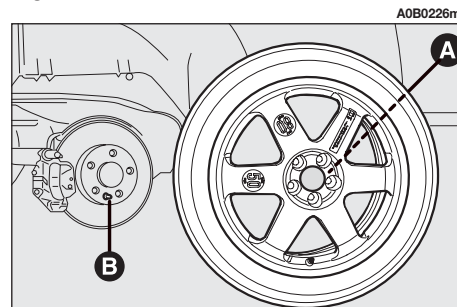

fig. 7
- Install the spare wheel by matching one of the holes (**A-fig. 7**) with the corresponding pin (**B-fig. 7**).
— Fit a normal wheel bearing in mind that the pin (**B-fig.7**) must match one of the holes (**A-fig.7**).
— Tighten the bolts following the order previously described for the compact spare wheel **fig. 7**.
— Lower the car and remove the jack; then tighten the bolts as described previously for the spare wheel (**fig. 7**).